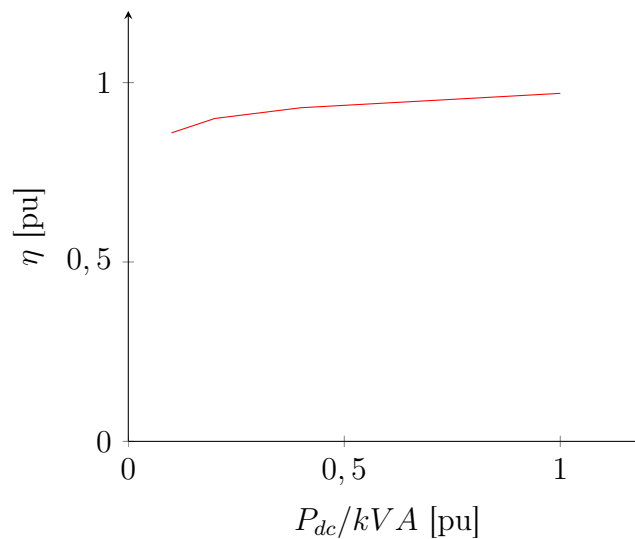

Figure 3: Inverter efficiency curve
- *EffCurve*: Inverter efficiency curve. This curve characterizes the variation of the inverter efficiency as a function of the power from PV array,  $P_{dc}$ , in per unit of inverter's kVA rating, as can be seen in the Figure 3. For each DC bus voltage, there is an efficiency curve of the inverter, however, the present version of the model only defines one curve that generally corresponds to the rated voltage of the DC bus. To define this curve in OpenDSS, the user must use the XYCurve object, as shown below.